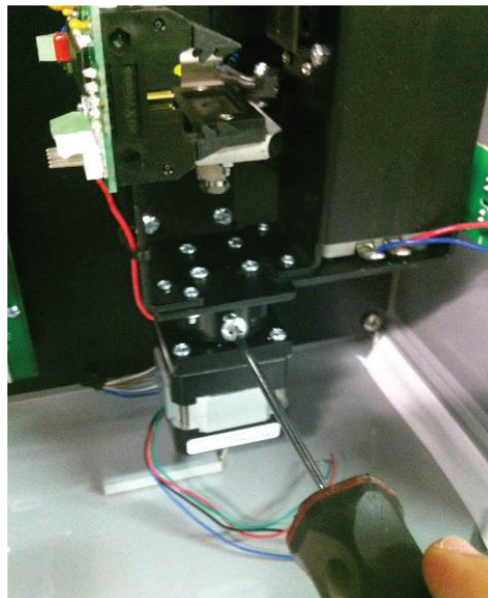

Figure 14.8: Unscrew set screw
6. Loosen the set screw that secures the rotating arm assembly to the motor shaft as shown in Figure 14.8.